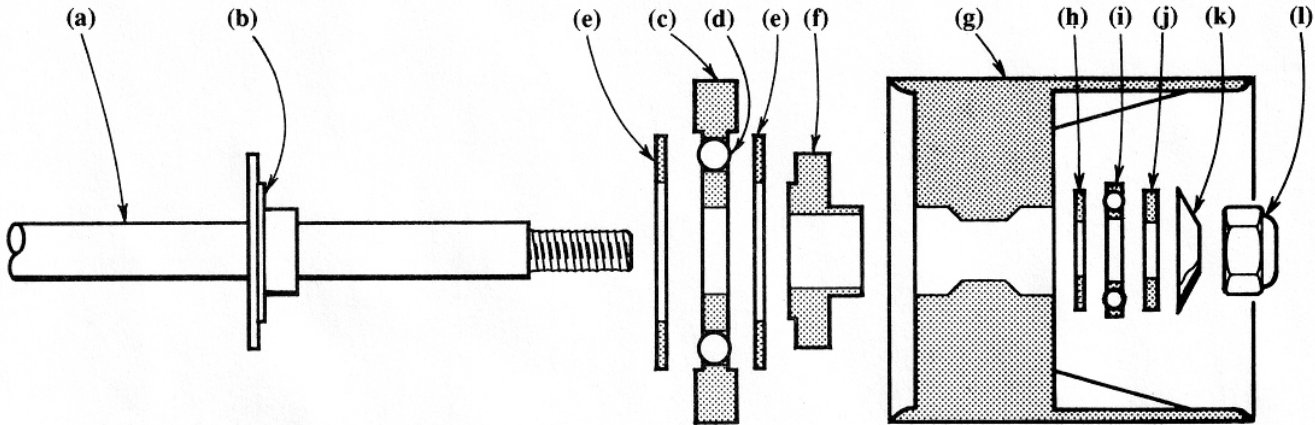

fig. 1
STEP 2 To make the differential easier to assemble, we suggest you temporarily install a wheel on the axle (a) on the opposite side from the differential. Holding the axle in a vertical position, threaded end up, slide the parts on in the order shown in fig. 1. The unthreaded portion of the axle should extend into—but not through—the last thrust washer (j) (the thickest washer). If the axle extends past the last thrust washer, add the thin shim washers (included with kit) between the wheel (g) and the first washer (h) to shim the thrust bearing assembly (h, i, j, k, l) until the axle is flush or slightly inside the last thrust washer (j).